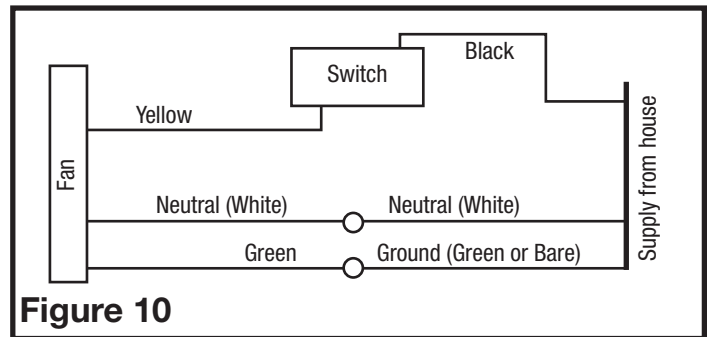

Figure 10
5. For two speed fans wired for continuous ventilation, connect the White wire of the fan to the White (Neutral) wire from the power source. Connect the ground wire from the house to the Green wire from the fan housing. Connect the Black wire of the fan to the Black wire (Hot) from the power source. The fan will operate on low speed continuously and boost to high upon a rise in humidity. Using a properly grounded switch connect the Black wire from the supply to the input side. Connect the Yellow wire from the fan to the other side. Closing the switch will change from normal to high speed. A manual override switch (not included) can be used to provide a manual fan Off function. (**Figure 10**).
6. For two speed fans wired for continuous ventilation, connect the White wire of the fan to the White (Neutral) wire from the power source. Connect the ground wire from the house to the Green wire from the fan housing. Connect the Black wire of the fan to the Black wire (Hot) from the power source. The fan will operate on low speed continuously and boost to high upon a rise in humidity or motion is detected. Using a properly grounded switch connect the Black wire from the supply to the input side. Connect the Yellow wire from the fan to the other side. Closing the switch will change from normal to high speed. A manual override switch (not included) can be used to provide a manual fan Off function. (**Figure 10**).